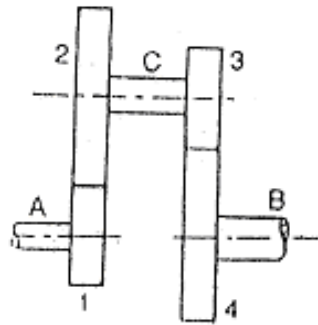

Figure: 1
8. In a reverted gear train, as show in Figure:1, two shafts A and B are in the same straight line and are geared together through an intermediate parallel shaft C. The gears connecting the shafts A and C have a module of 2 mm and those connecting the shafts C and B have a module of 4.5 mm. The speed of shaft A is to be about but greater than 12 times the speed of shaft B, and the ratio at each reduction is same. Find suitable number of teeth for gears. The number of teeth of each gear is to be a minimum but not less than 16. Also find the exact velocity ratio and the distance of shaft C from A and B. [15M]